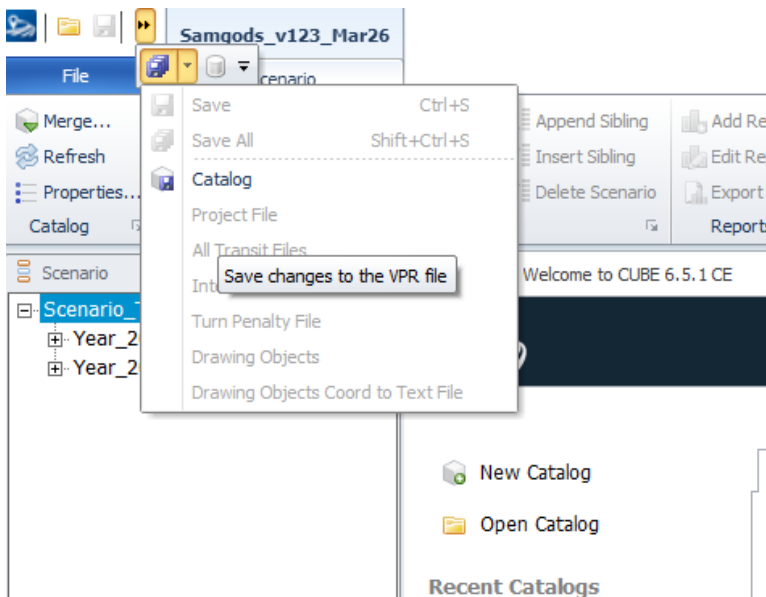

Figure 5 Save the catalogue file in the graphical user interface in Cube
- f) Save the model catalogue clicking on save in the top right corner, see Figure 5.